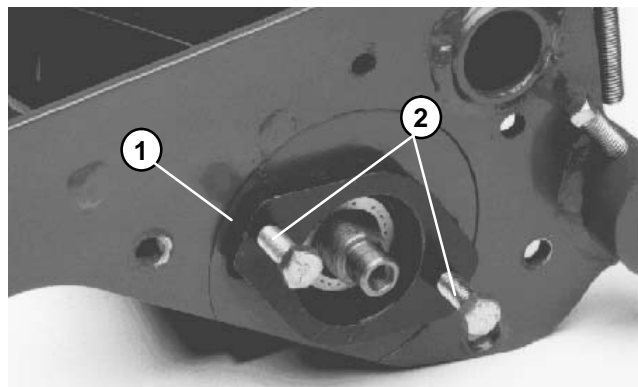

Figure 31
4. Using a plastic headed hammer, rotate bearing housing slightly, install bearing housing bolts from outside housing, turn bolts alternately against side plate. Use this method to remove bearing housing (Fig. 31).